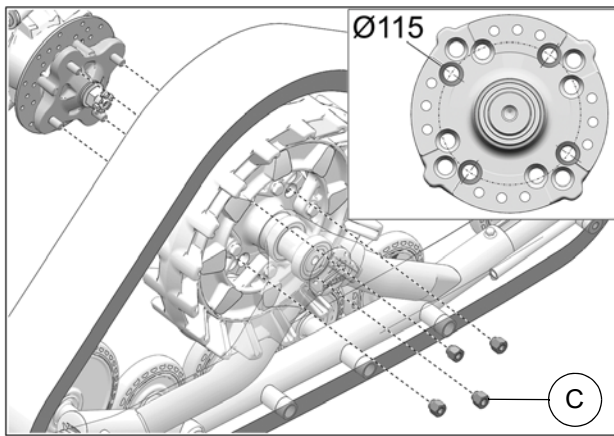

Fig. 9
8. Secure undercarriage to rear hub using the lug nuts (**C**) provided. Use bolt circle  $\varnothing 115\text{mm}$ . See Fig. 9